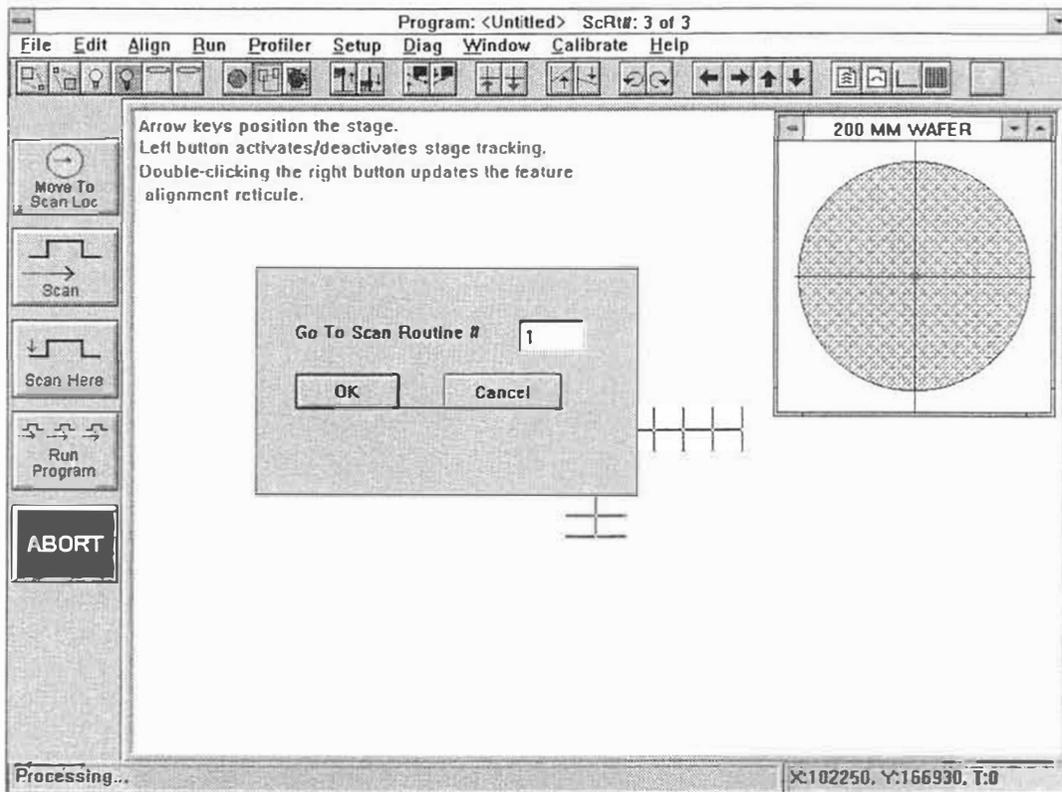

Figure 5-4. Program Entry Menu
2. Click-on "Edit" from the screen specific menu bar. The Edit Menu will be displayed listing several options (see Figure 5-4). Selecting "Enter Scan Location" from the Edit Menu enters the current stage location into the current scan routine. Selecting "Enter Scan Length" allows the scan length to be adjusted. And selecting "Go to Scan Routine" goes to the selected scan routine, making it the current scan routine. The number of the current scan routine is displayed at the very top of the screen.